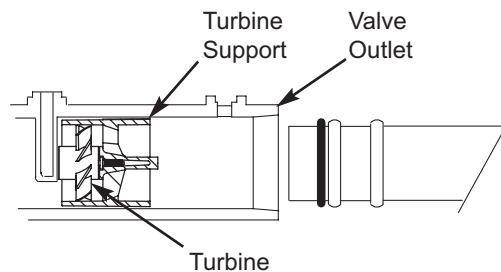

FIG. 10
- c. Make sure that the turbine and support are in place in the valve outlet, as shown in Figure 10.